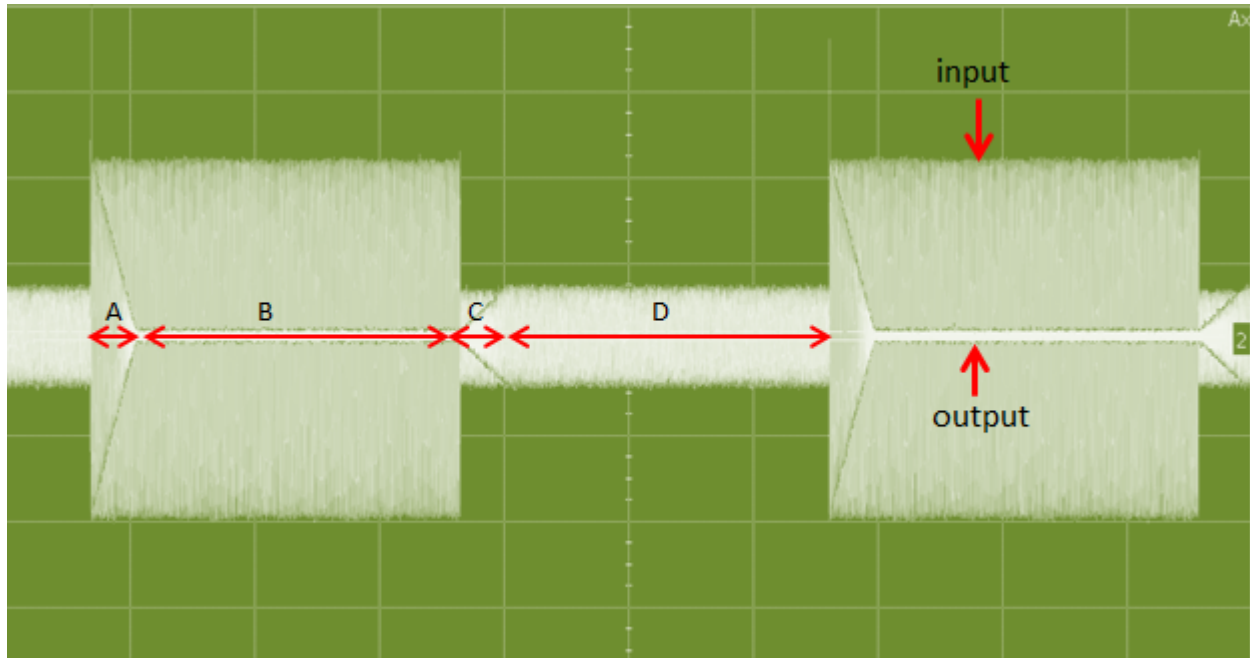

Figure 9. Output of PAP Block for a 2-Level Sine Wave Input and *mem_threshold* = 1000.
Based on the 2-level sine wave input to the PAP block in Figure 7 and the resulting accumulator output in Figure 8, when the parameter *mem_threshold* is set to 1000, the final output of the PAP block is as shown in Figure 9. The state machine transitions through all the four states: ATTENUATE (A), WAIT (B), GAIN (C) and NORMAL (D).
The response time is defined as the time the PAP state machine stays in either the ATTENUATE state (state A in Figure 9) or GAIN state (state C in Figure 9).